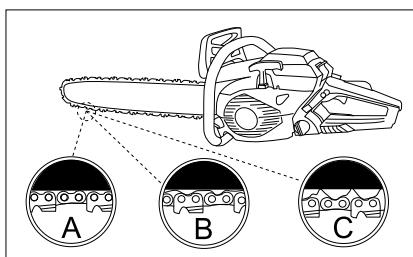

Fig. 10
Look at fig. 10, which shows the correct tension for a cold chain (A), a warm chain (B), and a chain whose tension needs to be adjusted (C).